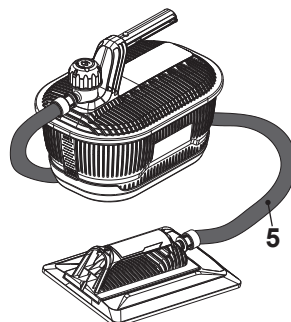

Fig. 6
- > The hose (5) is now assembled (Fig. 6).